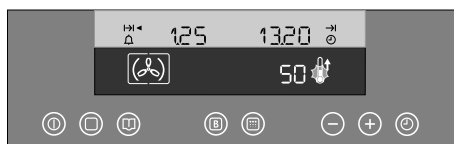

Fig. 23
3. When 5 seconds elapse, symbol "●" disappears and the thermometer symbol rises slowly  , indicating the degree to which the oven is currently heated. The upper section of the display will now show the cooking duration at the left hand and the end of cooking time at the right hand (Fig. 23).